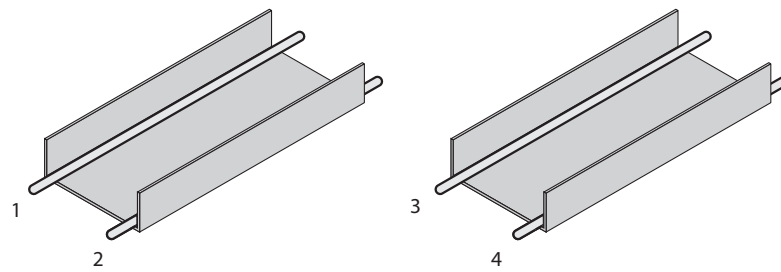
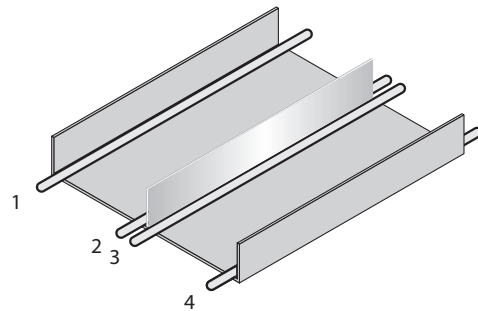

Figure 15: Ideal laying – Place cables in different cable channels
Figure 16: Alternative laying – Separate cables with metallic separators
- ▷ Cables in groups 1, 2 and 3, 4 must be routed in different cable channels or metallic separators must be used, see figure 15 and see figure 16. This applies particularly where cables of devices with a high level of radiated emission, such as frequency converters, are laid parallel to sensor cables.